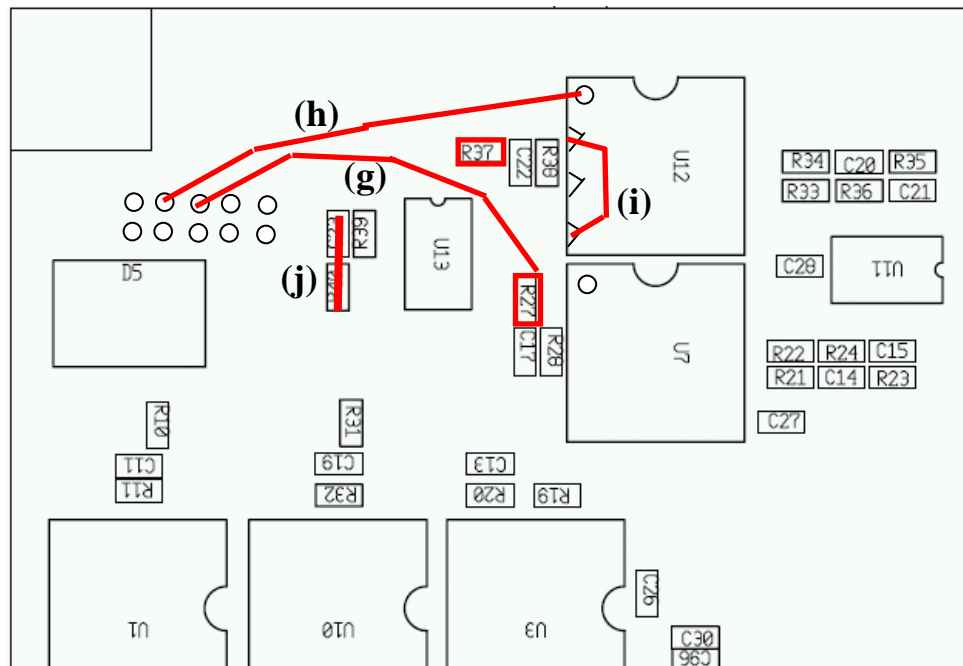

Fig.9. Wire connections on bottom side 3-g, h, i, j.
- (g) Wire connection. Connect resistor R27 (part of +5VMB sense line divider) directly to pin5 of J12 connector by a 30mm piece of insulated wire, see Fig.9 on next page.
- (h) Connect pin3 of J12 with pin1 of U12 by using a wire, see Fig.9. This operation will connect +5V DIG with power supplies of all five isolation amplifiers (HCPL7840).
- (i) Make a short connection between pin4 and pin 2 of U12, see Fig.9.
- (j) Connect resistor R37 directly to pin7 of the connector J12 (-5VMB sense lines) by means of short-cut through unsoldered components C23, R40, see Fig.9. Verify good connection between pin7 of J12 and resistor R37.